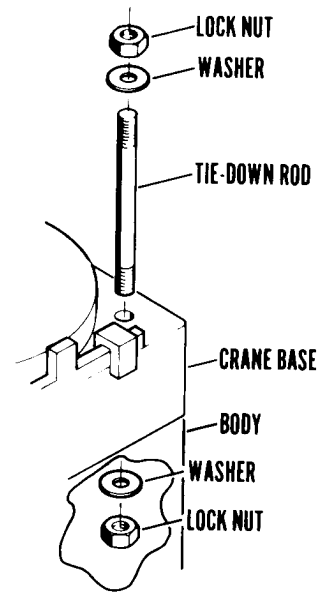

Figure C-3.
3. Install the mounting tie rods, washers and nuts to secure the crane base to the truck body (Figure C-3). Torque to 200 ft. lbs. (28 kg-m).